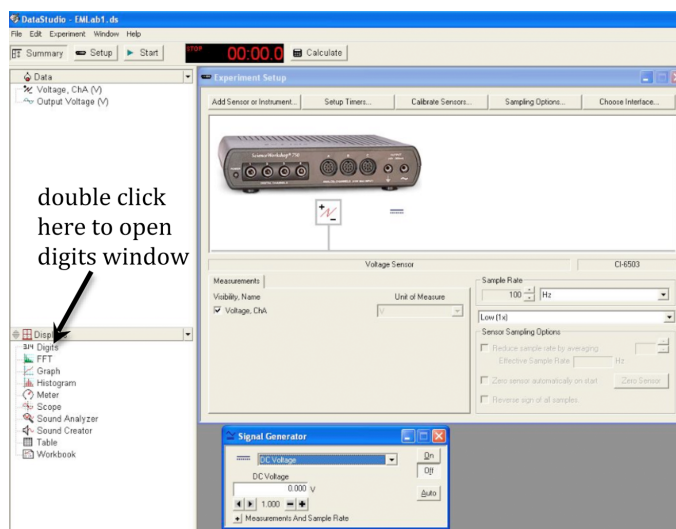

Figure 9: Opening the digits window
- 16 If the digits window is not open, double-click **Digits** on the task bar on the lower left side of the screen. See Fig. 9 below.